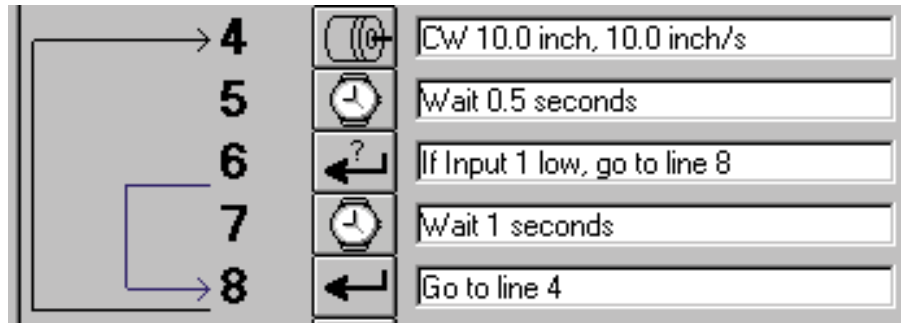

Figure 70
1. It allows skipping part of the program based on an external condition. For example, the MSS's task is to feed parts. Normally the MSS waits only a half second before feeding the next part, because that's how long it takes for the saw to cut the part. However, parts are sometimes made of a different material that takes longer to cut (aluminum vs. steel, maybe). On the days steel parts are run, it would be advantageous to be able to flip a switch and change the delay between parts to 1.5 seconds. Figure 70 shows the program required to accomplish this.